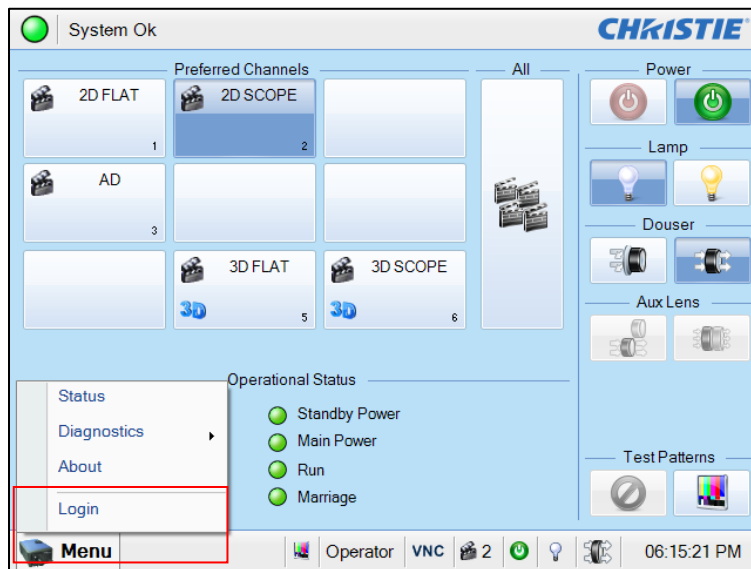

Figure 22: Marriage account
2. Log in to the **[Marriage]** account on the projector TPC. Select **[Menu] → [Login]** (as shown in **Figure 22**).